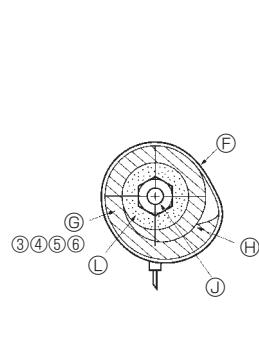
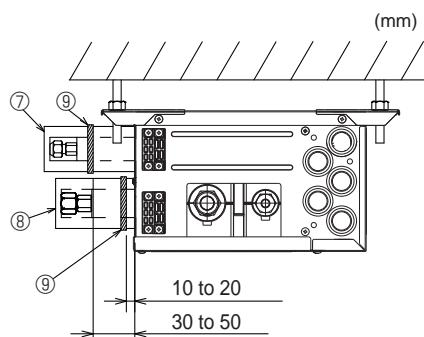

Fig. 7-3
Fig. 7-4
- (3) Connect the refrigerant piping immediately. Always tighten the flared nuts to the torque specified in the table 2 using a torque wrench and double spanner.
- (4) Press the pipe covers ③ and ⑤ on the liquid piping against the unit and wrap to hold in place. (Fig. 7-3)
- (5) Press the pipe covers ④ and ⑥ on the gas piping against the unit and wrap to hold in place. (Fig. 7-3)
- (6) Apply the supplied bands ⑨ at a position 10 - 20 mm from each end of the pipe covers (③④⑤⑥).
- (7) If the indoor unit is not connected, fit the supplied pipe covers (with caps, ⑦ and ⑧) to the branch box refrigerant piping connections against the unit to prevent condensation dripping from the pipes. (Fig. 7-4)
- (8) Clamp the pipe covers (⑦⑧) in place with the supplied bands ⑩.
- ① Band ⑨
- ② Pipe covers ③④⑤⑥
- ③ Tighten
- ④ Refrigerant piping
- ⑤ Thermal insulation for refrigerant piping
► Use the following procedures for indoor connection part which indoor unit is not connected. (Fig. 7-4)
- (1) In order to prevent refrigerant leaks, make sure that the flare nuts are tightened according to the specified torques* in Table 3.
- (2) In order to prevent condensation, install the pipe covers ⑦ ⑧ against the unit and fasten them with the supplied bands ⑨ .